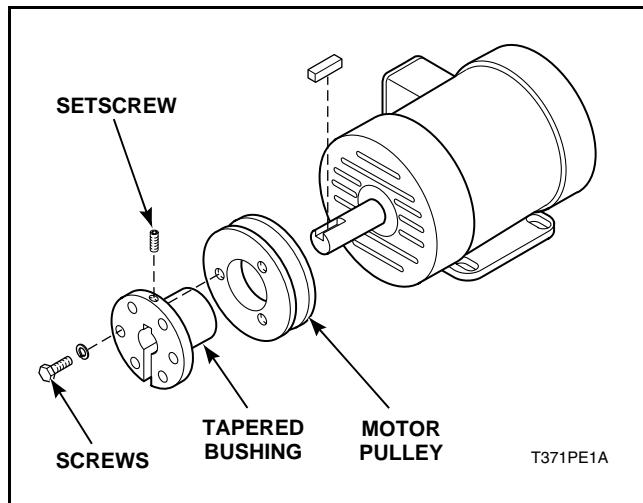

Figure 16
- b. Loosen setscrews and, remove screws from tapered bushing. Refer to *Figure 16*.
IMPORTANT: Realign cylinder motor pulley with step pulley by loosening the tapered bushing and repositioning the motor pulley on the cylinder motor shaft. Refer to *Figure 16*.
- h. Remove screws from tapered bushing. Refer to *Figure 16*.